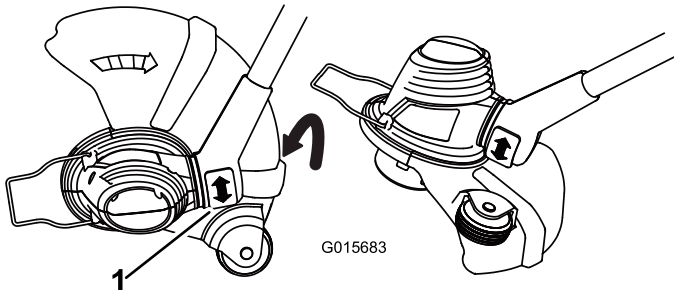

Figure 4
- To adjust the orientation of the base, press down on the rotator button located at the base of the shaft, then move the base to face the desired direction (Figure 4).